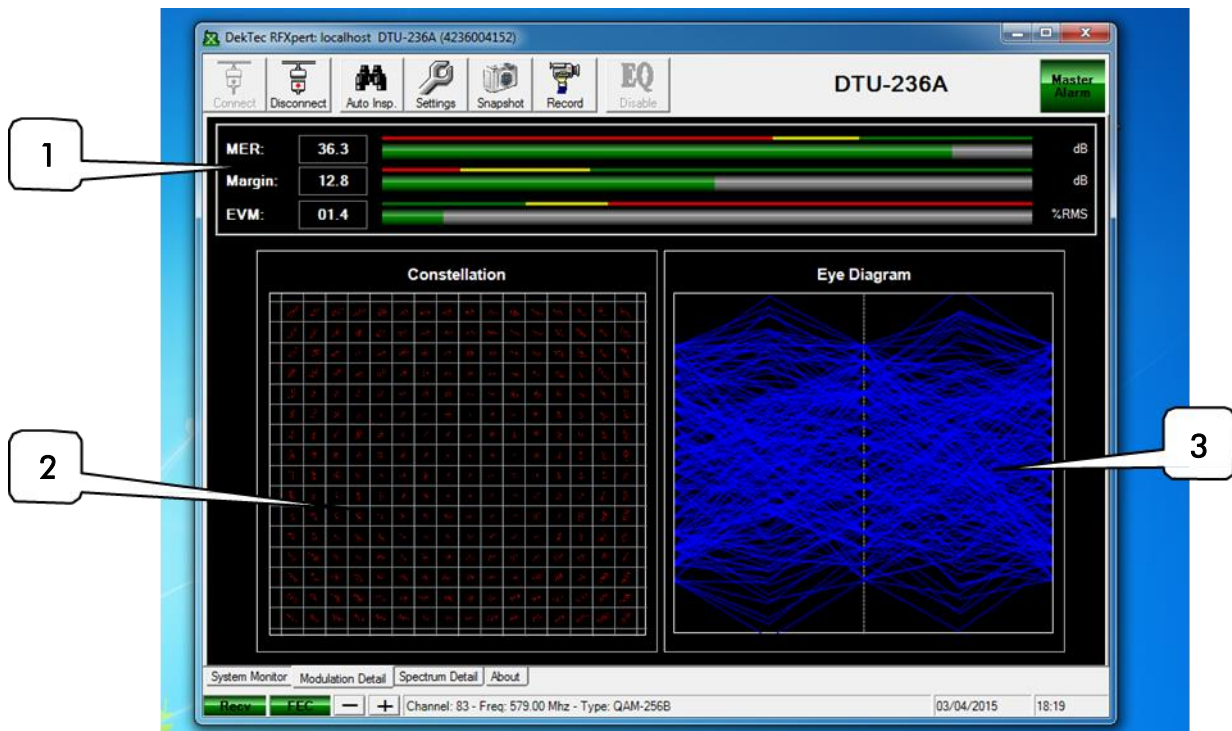

Figure 24. Modulation Detail Tab
2. **Burst Error Count:** Burst Error count defines how many errors must be present in one second before a Burst Error Second count is triggered. See section 6 (figure 24) for more detail on this measurement.